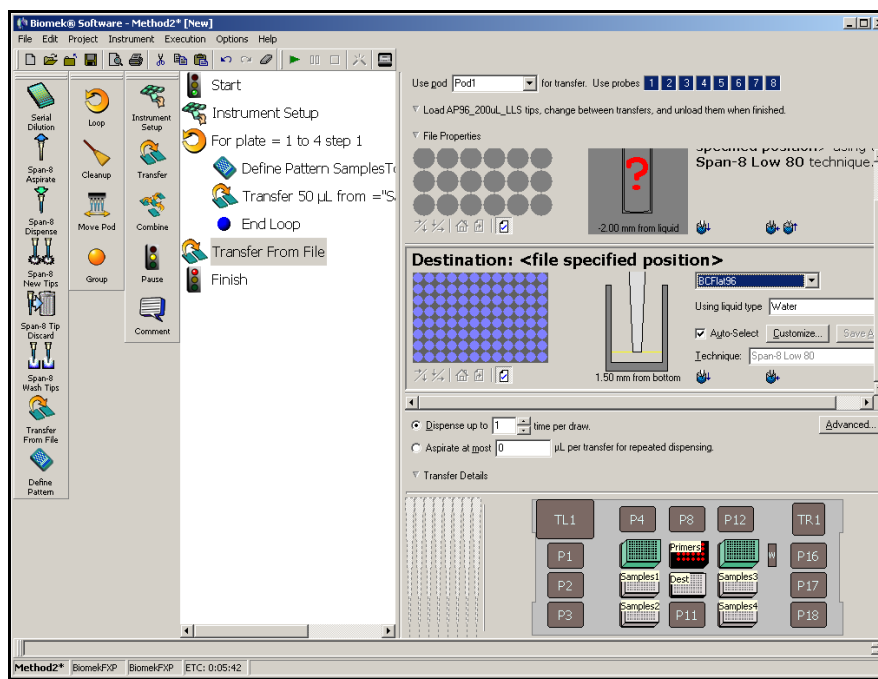

Figure 9-10. Transfer From File configured
6. In Using liquid type, select **Water**. The main editor should look like Figure 9-10.